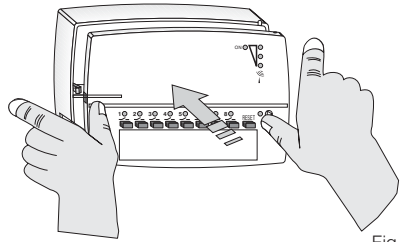
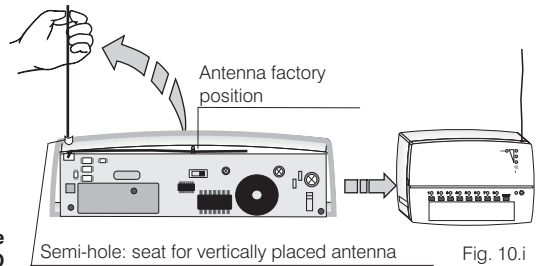

Fig. 9.i
Fig. 10.i
- Push the front on to the base using both hands as shown in figure 9.i, until the catches click and lock the front to the base.
- Pass the wire through the small semi-hole provided for the purpose (fig. 10.i)
- Carefully reclose the receiver (fig. 9.i - fig. 10.i)